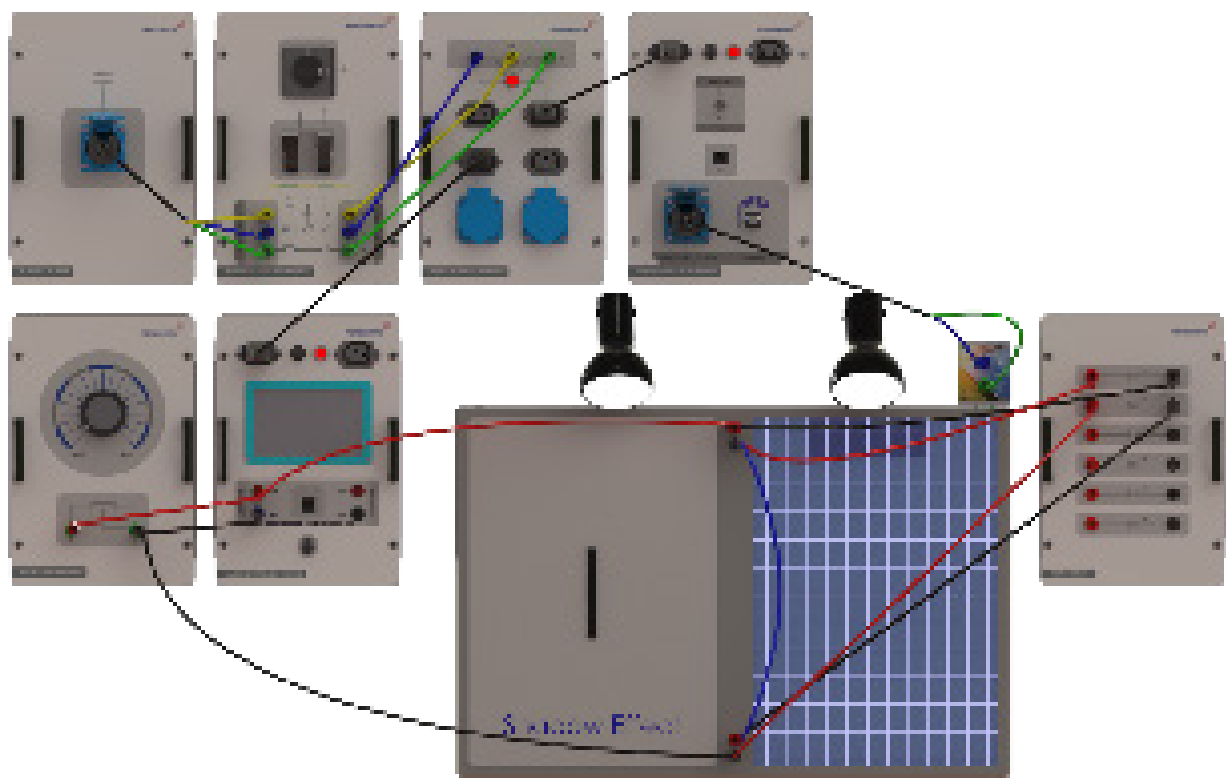

Figure-7
14) Use the shadowing device to shadow panel-2 as shown in Figure-7. Record in chart-2 the value observed on the voltmeter placed on the AC/DC Measurement Module under this circumstance.